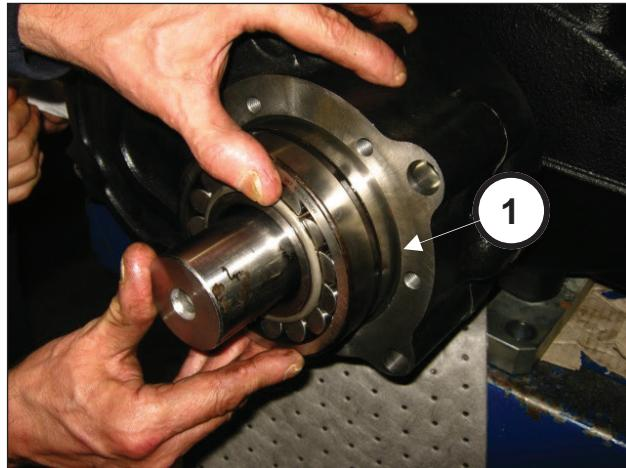

Fig. 87
Insert the 55x120x43 bearing on the pinion (pos. ①, Fig. 87).